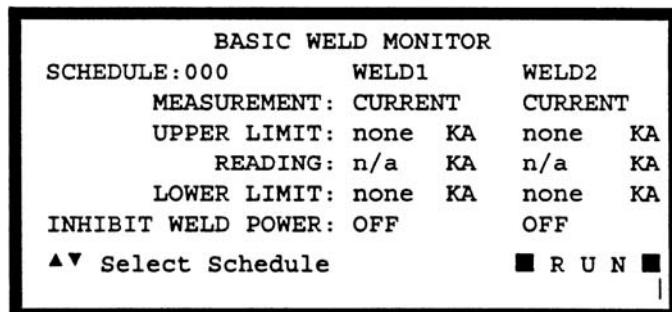

Figure 7-4. Weld Schedule in PROGRAM State -- Power Up Weld Schedule Programmed.
- 5 The Alphanumeric PROGRAM screen will now appear as shown in Figure 7-4. Save the settings for Schedule 003. The remaining schedules need to be program-med.